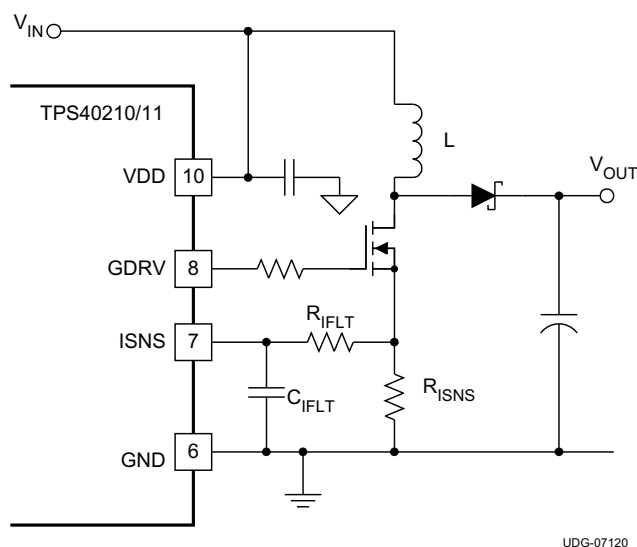

Figure 23. Current Sense Components
- V_D is the drop across the diode in Figure 23
It is possible to increase the voltage compensation ramp slope by connecting the VDD pin to the output voltage of the converter instead of the input voltage as shown in Figure 23. This can help in situations where the converter design calls for a large ripple current value in relation to the desired output current limit setting.
In most cases, a small filter placed on the ISNS pin improves performance of the converter. These are the components R_{IFLT} and C_{IFLT} in Figure 23. The time constant of this filter should be approximately 10% of the nominal pulse width of the converter. The pulse width can be found using Equation 11.